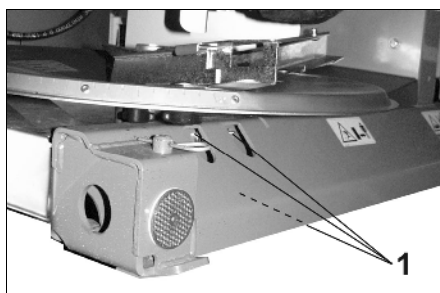

Fig. 52
- Clean and grease agitator shaft and drive chain.(Fig. 52/1).
The bolts (Fig. 52/1) on the angular gearbox are safeguarded with Loctite.